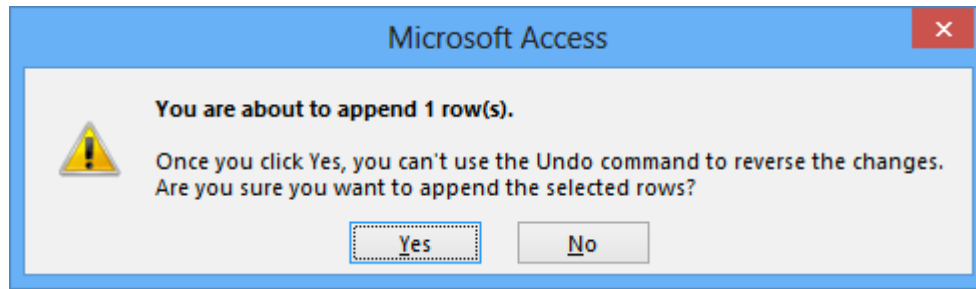

Figure 42: Append Message Box
4. Execute the Query: When you try to execute the query, the message in Figure 42 appears. Click the **Yes** button to insert the new record. You should only execute this query once. Executing it more than one time will insert duplicate records, except for the unique *PartNo* value generated by Access. Close and save the query as “SQL5” when prompted.